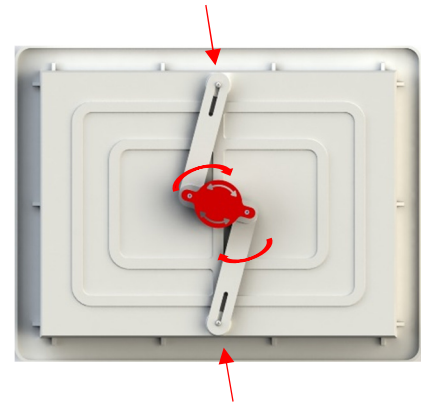

Figure 11
- 1) Turn the red handle a quarter turn in either direction to retract the arms. (Figure 11)